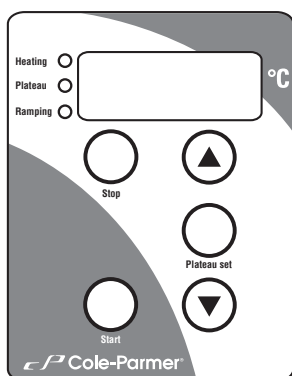

Figure 2
9. Press the Start or Start/Stop key. The unit will quickly heat up to the plateau temperature (the heating light will be illuminated - see Figures 2 and 3).
10. Once the plateau temperature has been reached the plateau light will be illuminated as well as the heating light - see Figures 2 and 3).
11. Press the Start button again. The block will begin to heat at the pre-set ramp rate (high-resolution units) or at the fixed 2°C per minute (the plateau light will go out and the ramping and heating lights will both be illuminated - see Figures 2 and 3).